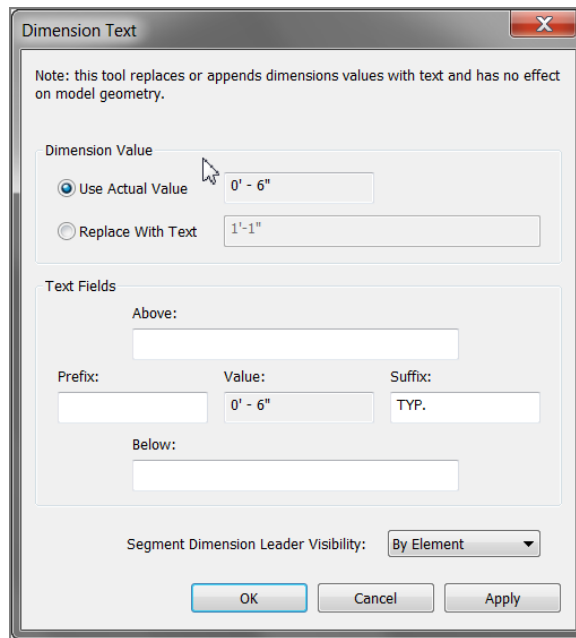

FIGURE 5.43: Under Dimension Value, choose Use Actual Value, and type TYP. as the suffix.
7. Under Suffix, type TYP., as shown in Figure 5.43.